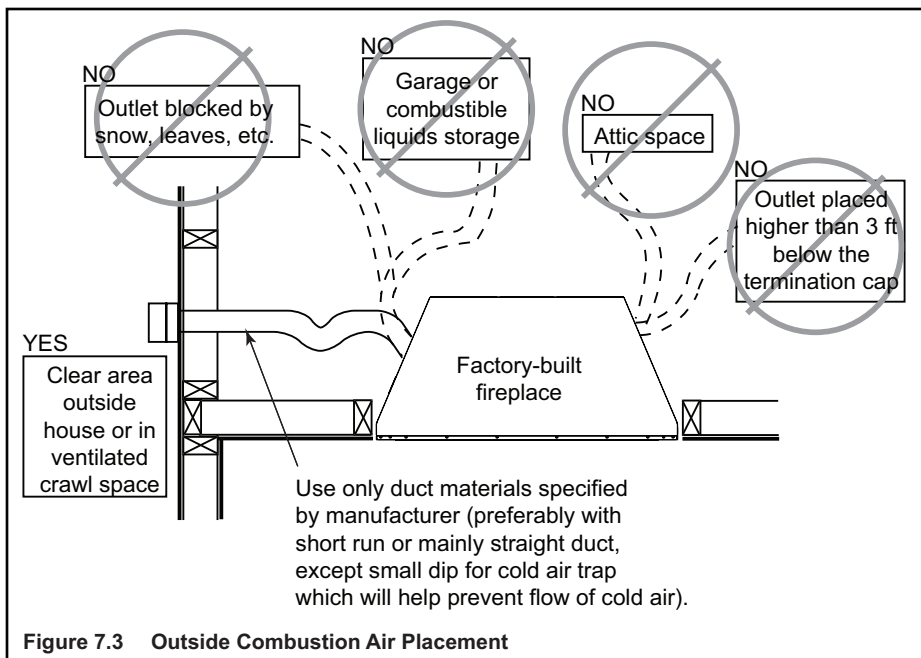

Figure 7.3 Outside Combustion Air Placement
- See Figure 7.3 for proper placement of outside air inlet.